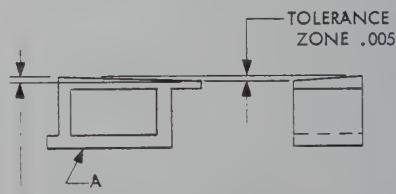

FIG. 4
**Minimum (Min.):** The term "min.", when specified on the drawing, is to designate the lower limit of a dimension. The upper limit may be considered anything greater than the lower limit. See Fig. 4.